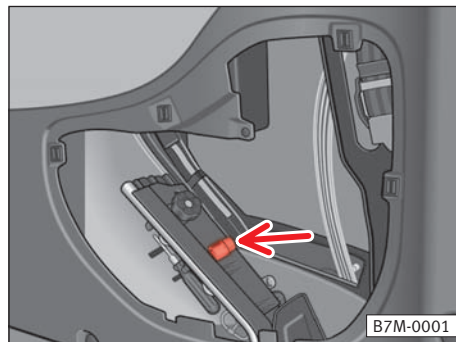

Fig. 180
- We recommend always carrying the adaptor in the space provided for it in the tool box ⇒ fig. 180